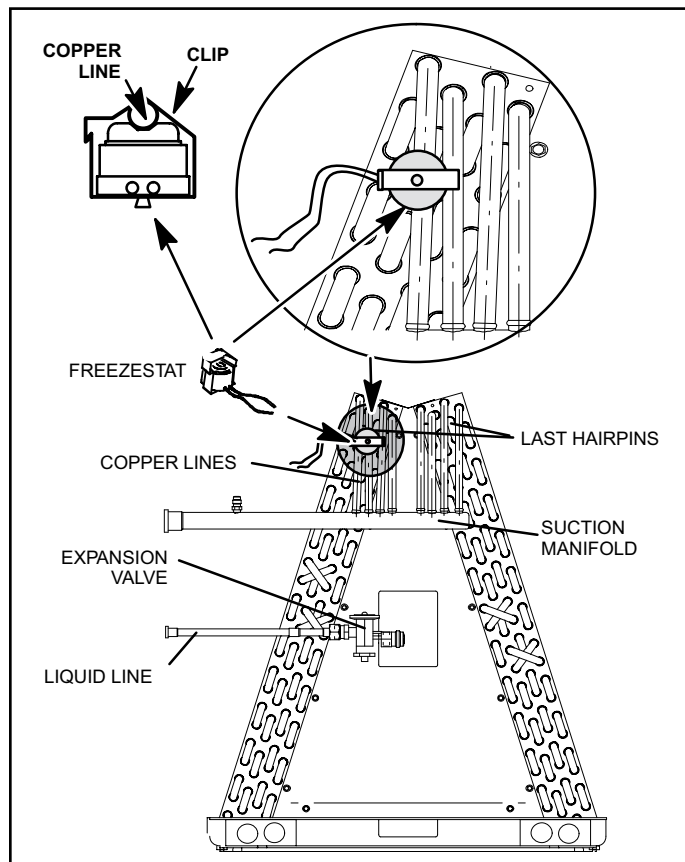

Figure 5. Typical Freezestat Installation (Indoor Coil)
1. A freezestat, sized per Table 3 and ordered separately, can be installed. Install the freezestat on one of the copper lines between the last hairpins and the suction manifold (see Figure 5) of the indoor coil.